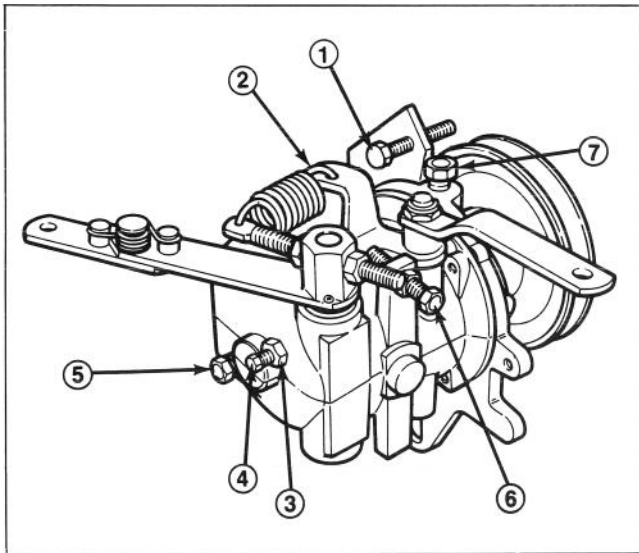

Figure 41
- 5. Release throttle arm, loosen jam nut on governor low idle stop screw and adjust it to attain 1500 ± 100 rpm. Tighten jam nut (Fig. 41).
- 6. Slowly move throttle to FAST position until engine speed reaches 3200 ± 100 rpm. Shut off engine. Adjust high idle stop screw until it contacts speed control lever (Fig. 41).
8. Check V-belts from engine to governor pulley and assure they are tight. If belts are loose, the engine will surge. If belts are tensioned properly, loosen jam nut that retains the anti-surge screw (Fig. 41). Rotate screw clockwise 1/8 turn at a time until surging stops. Should governor continue to surge, check the following:
2. Disengage hood latch and open the hood. Remove check plug (Fig. 41). Level of oil must be up to bottom of filler hole. If level of oil is low, remove oil fill